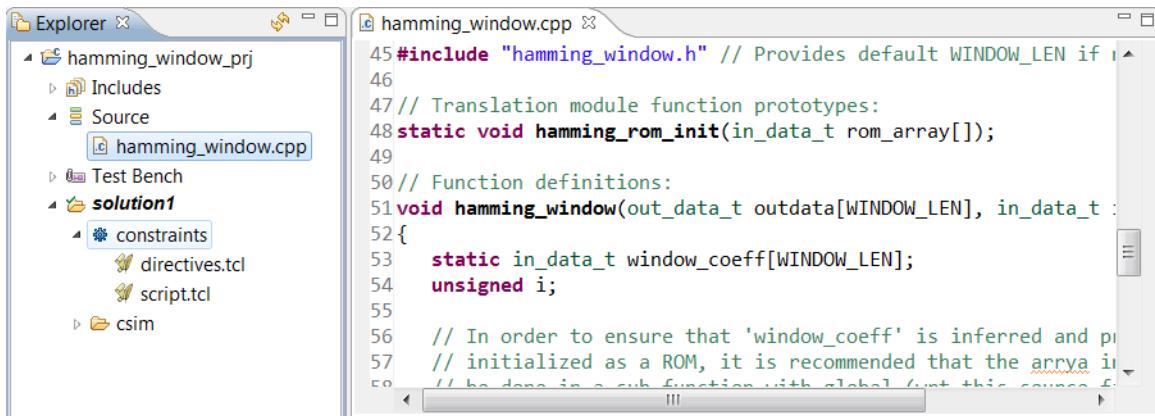

Figure 3-18: C++ Code for C Validation Lab 3
4. Open the **Source** folder in the explorer pane and double-click `hamming_window.cpp` to open the code, as shown in Figure 3-18.